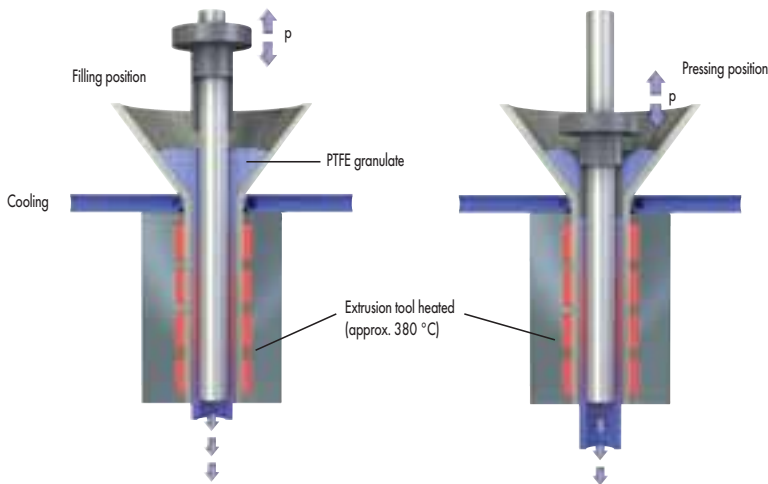

Fig. 24 Ram extrusion principle
- Ram extrusion for the manufacture of endless bar stock and pipes (→ Fig. 24)